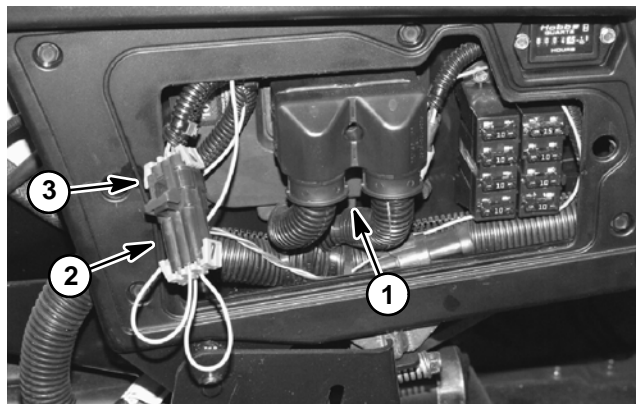

Figure 9
2. Open control panel cover. Locate wire harness and connectors near TEC controller. Carefully unplug loopback connector from harness connector (Fig. 9).